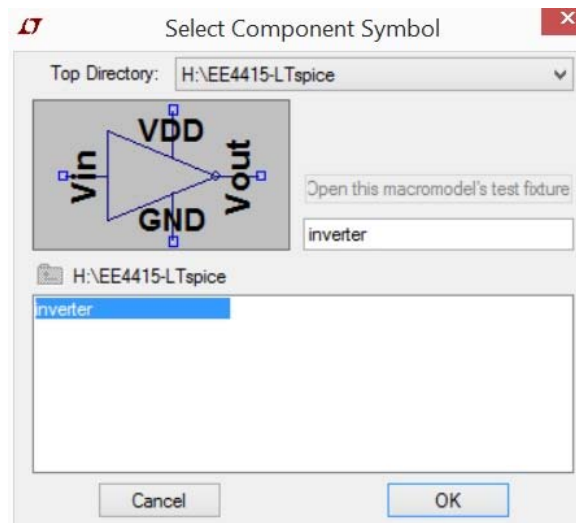

Figure 13. Add self-created symbol
- B. Click  to add the self-created symbol (sample: inverter). **Enter the path** where you saved the symbol (inverter) in **Top Directory** field, choose the symbol, and then click **OK** as Figure 13.